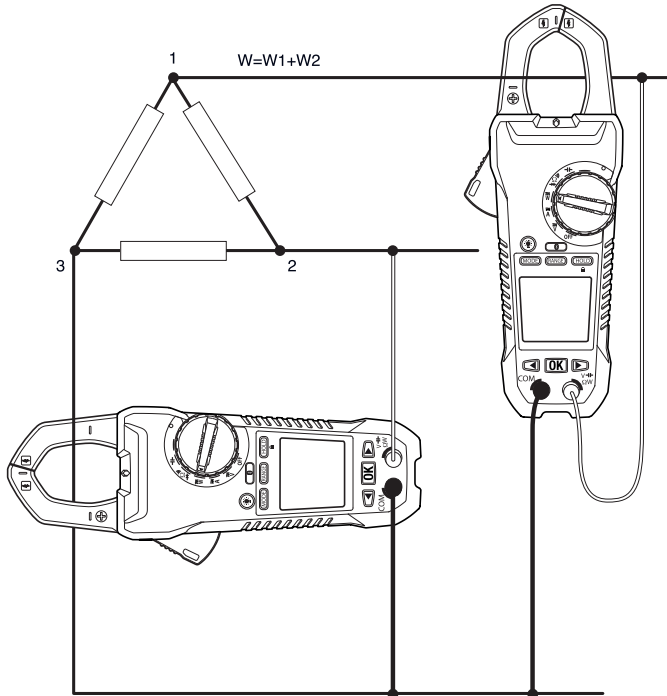

Figure 5.4 Three-phase three-wire measurements
The power of a three-phase three-wire delta configuration is measured in two steps, in accordance with Figure 5.4. The total power is the sum of the two measurements: $W = W1 + W2$.
3. Take two measurements of the active power, in accordance with Figure 5.4.